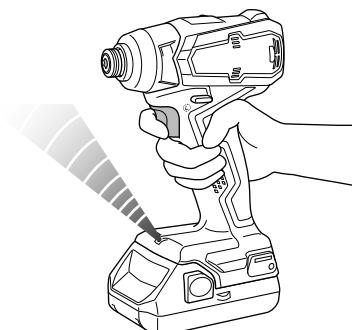

Fig. 13
11. LED light warning signals (Fig. 13)